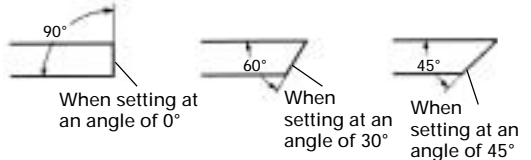

Fig. 4
2. Cutting at angles (Fig. 4 and 5)